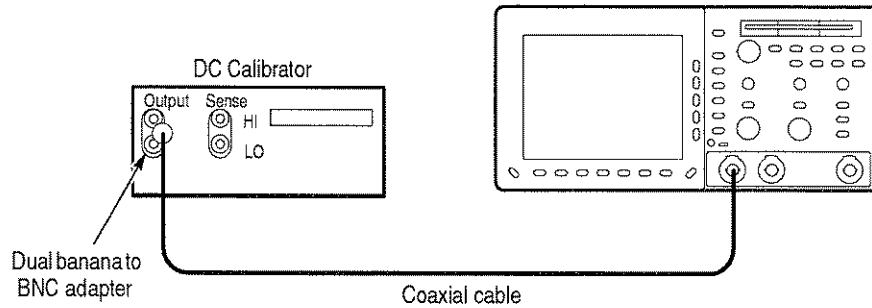

Figure B-2: Hookup for DC voltage measurement accuracy check
2. Connect the output of a DC calibration generator through a dual-banana connector followed by a 50 Ω precision coaxial cable to **CH 1**, as shown in Figure B-2.